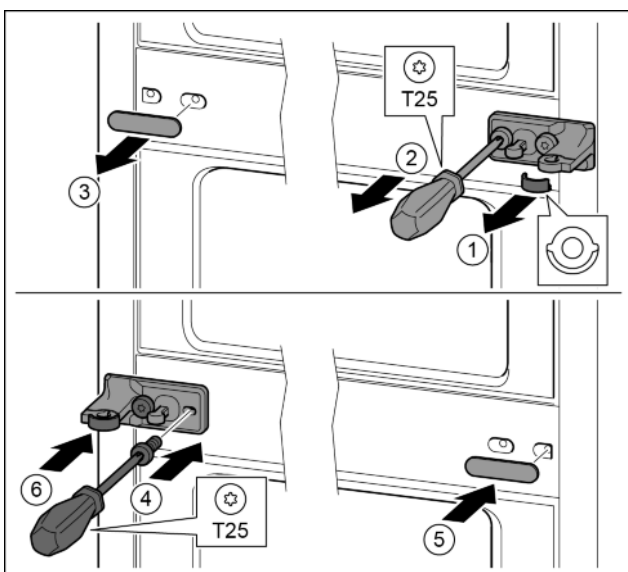

Fig. 28
- ▶ Remove the disc. Fig. 28 (1)
- ▶ Remove the screws with the T25 screwdriver. Fig. 28 (2)
- ▶ Remove the cover carefully. Fig. 28 (3)
- ▶ Screw the bearing bracket and the film rotated 180° firmly onto the other side. Fig. 28 (4)
- ▶ Attach the cover rotated 180° onto the other side. Fig. 28 (5)
- ▶ Push the disc in from the front. Fig. 28 (6)